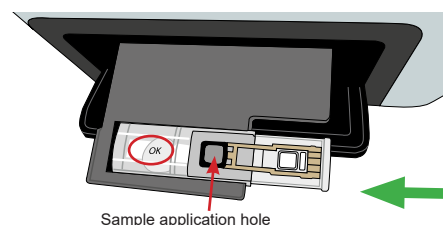

Figure 24. LUCIA cassette loading
12. Slide the Labmaster LUCIA™ test cassette onto the tray. See Figure 24.